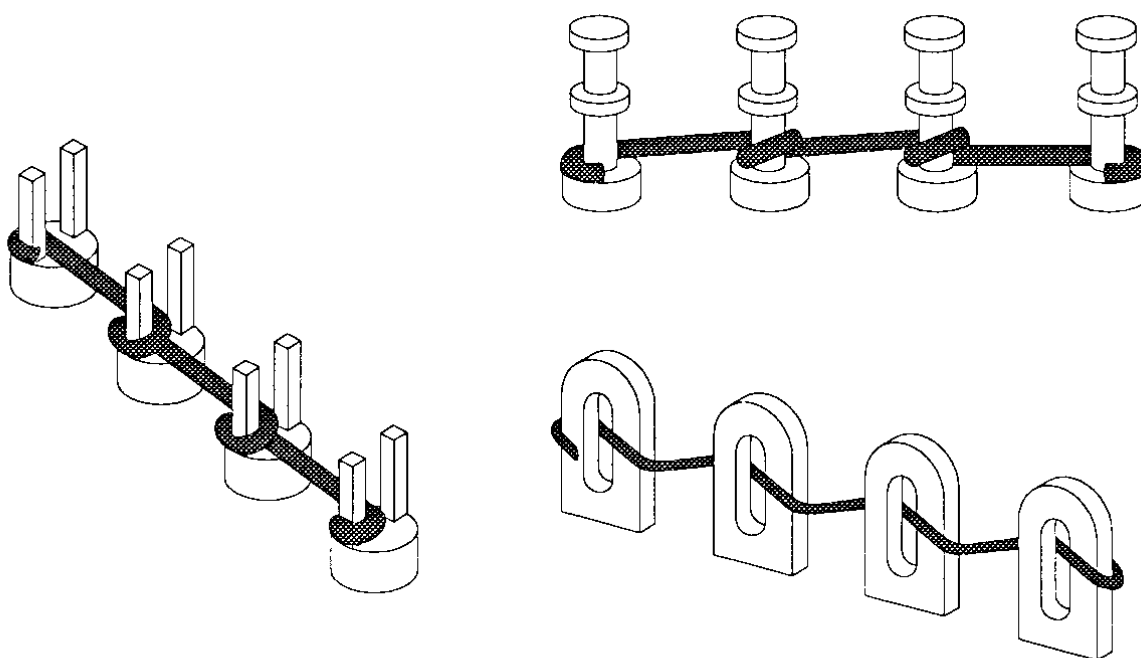

Figure 6 - Continuous Run Jumper
- 5.11.1 For bifurcated, turret and pierced or eyelet terminals to be connected in a continuous series (e.g., eyelet terminals on rotary switches) it is acceptable to connect the terminals as shown in Figure 6 by means of a continuous run jumper of bus wire to QQW343S22S1T in place of a series of single jumpers provided that the wiring diagram or schematic does not explicitly specify the type of jumper wire to be used. Insulate the bus wire between terminals using either heat shrinkable sleeving according to PPS 10.16 or Teflon sleeving (see Materials section, para. 4.1.4). Continuous run jumpering of feed through, hook or pin type terminals is not permitted.
- 5.11.3 Hook up continuous run jumper wires so that the jumper wire wraps approximately as shown in Figure 6.